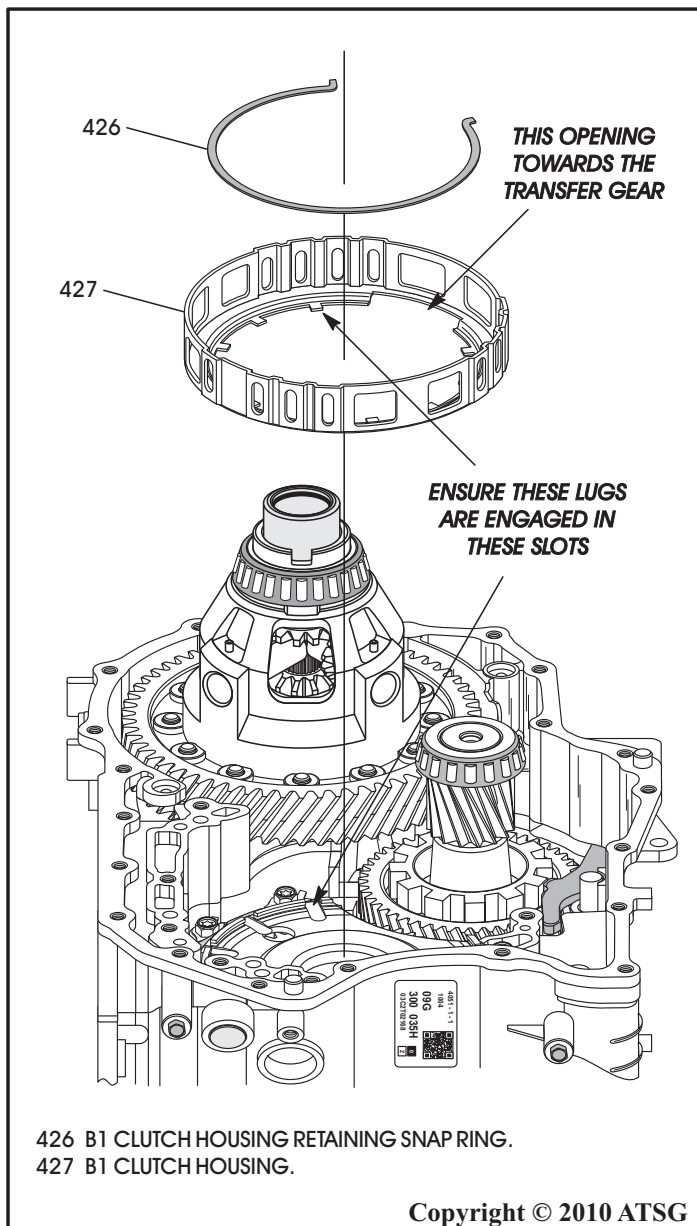

Figure 177
26. Install the B1 clutch housing with the opening towards the transfer driven gear, as shown in Figure 177, and insure lugs are engaged in slots in the center support.
27. Install the B1 clutch housing retaining snap ring with opening towards the transfer gear, as shown in Figure 177, and ensure it is fully seated in the center support.
Note: This snap ring is identified by two small "turn-outs" at the snap ring ends, as shown in Figure 177.